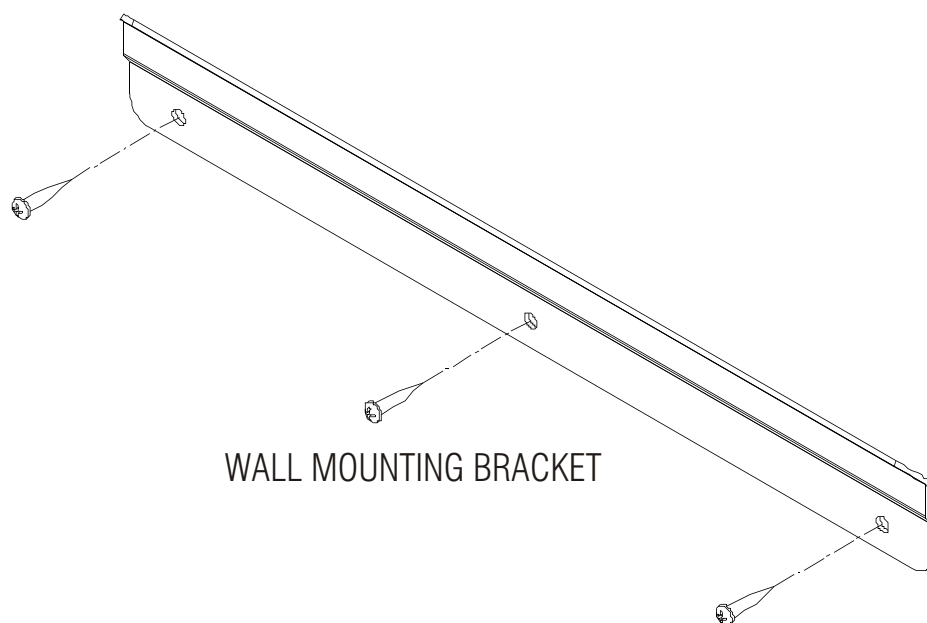

Figure 4A
- vi) Fit the wall mounting bracket to the wall using 3 x No 10 x 2 in (50 mm) woodscrews (see Figure 4A)